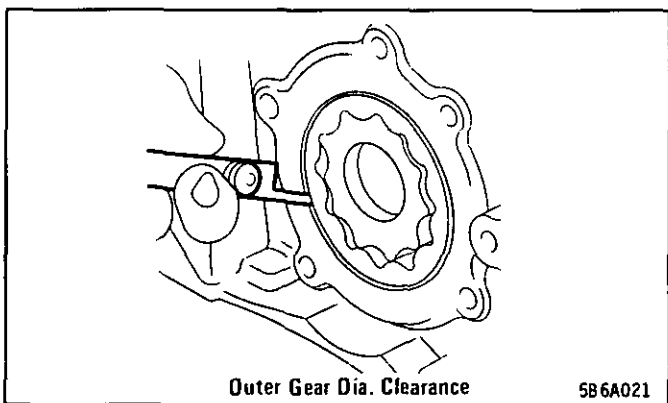

Figure 24 Outer Gear Diameter Clearance-Gerotor
- Outer gear diameter clearance. .203 mm - .381 mm (.008" - .015"). See Figure 24.